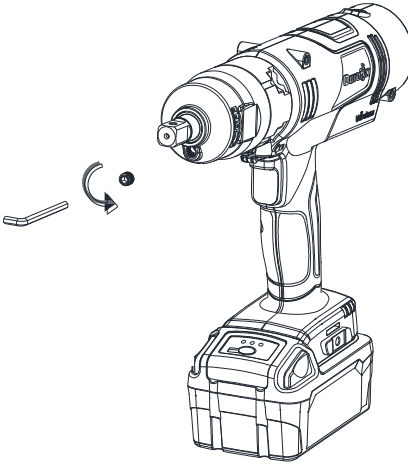

FIG. 3
2. Use an Allen key (4.0mm) to release the nut counter-clockwise. (FIG.3)